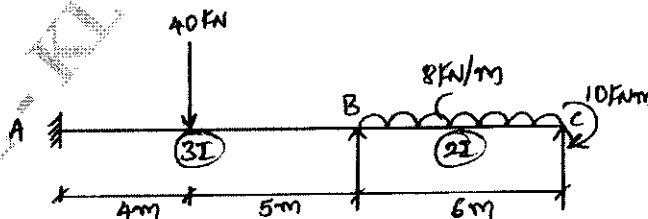

Fig.Q3
- 3 Analyse the continuous beam shown in the Fig.Q3 by element flexibility matrix method. Draw BMD and elastic curve. (16 Marks)